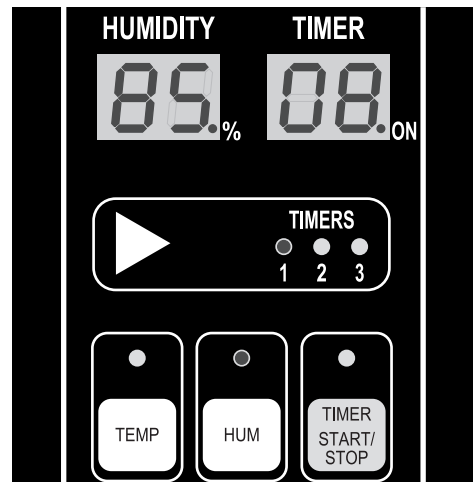

Fig. 5
2. If the unit is set to display the set humidity (Fig. 5), the button indicator LED will be illuminated. Pressing and holding the HUM button will display the actual relative humidity.